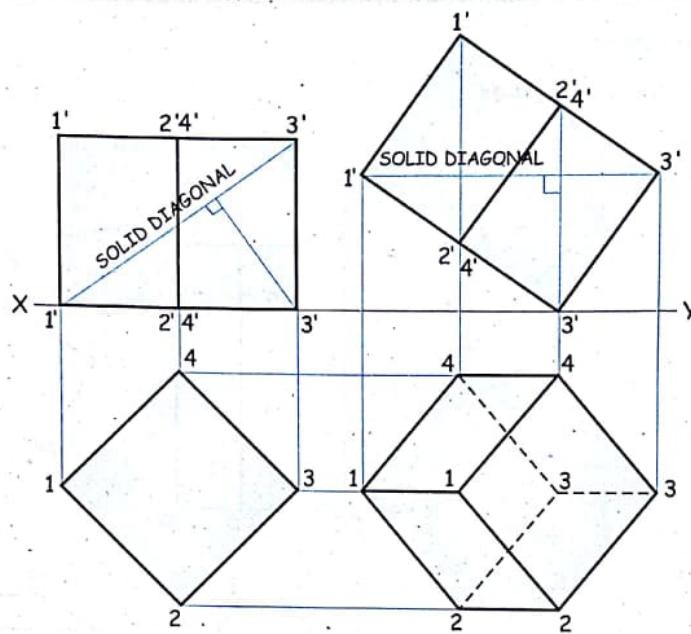

FIG. 10.44
**Solution :** Refer figure 10.44.